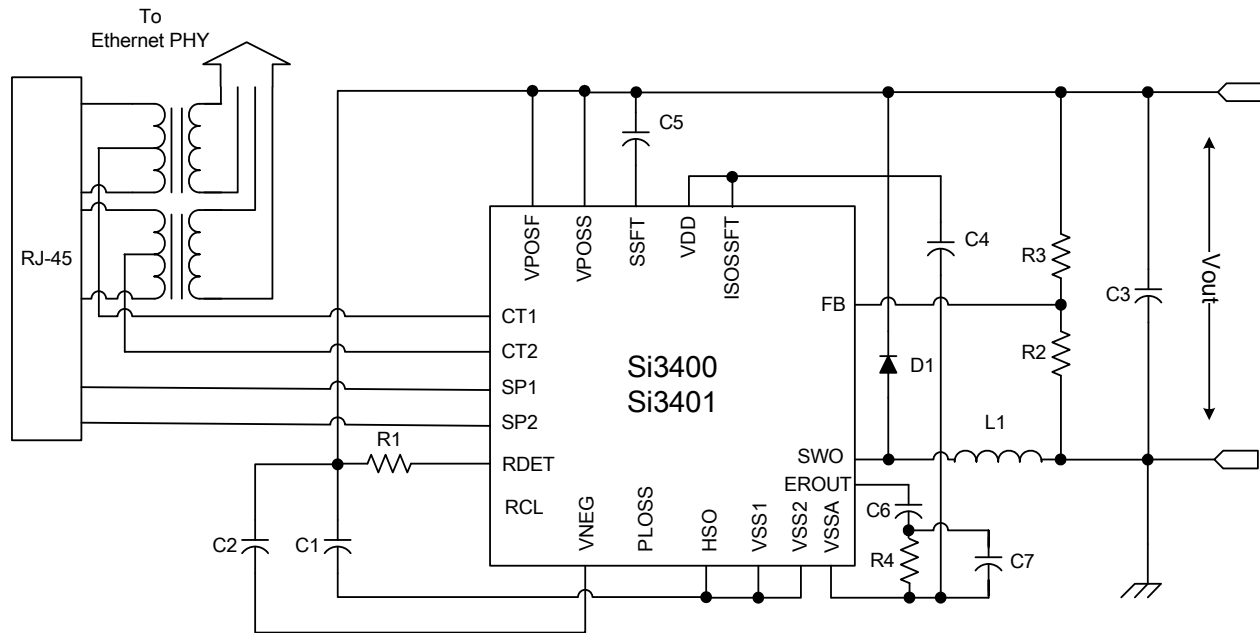
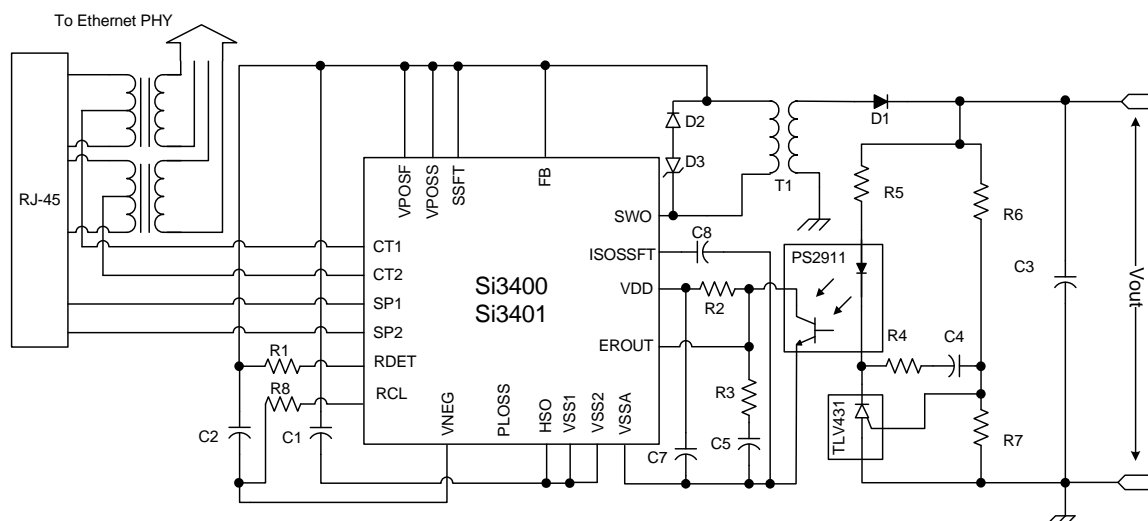

Figure 1. Simplified Schematic—Class 0 with Non-Isolated 5 V Output*
Figure 2. Simplified Schematic—Class 1 with Isolated 5.0 V Output*
6. Applies to non-isolated applications only (VOUT on schematic in Figure 1).
Notes: <ol style="list-style-type: none"> 1. Transient surge defined in IEC60060 as a 1000 V impulse of either polarity applied to CT1–CT2 or SP1–SP2. The shape of the impulse shall have a 300 ns full rise time and a 50 μs half fall time with 201 Ω source impedance. 2. The classification currents are guaranteed only when recommended RCLASS resistors are used, as specified in Table 11. 3. IPORT includes full operating current of switching regulator controller. 4. The PD interface includes dual-level input current limit. At turn-on, before the HSO load capacitor is charged, the current limit is set at the inrush level. After the capacitor has been charged within $\sim 1.25\text{ V}$ of VNEG, the operating current limit is engaged. This higher current limit remains active until the UVLO lower limit has been tripped or until the hotswap switch is sufficiently current-limited to cause a foldback of the HSO voltage. 5. See “AN296: Using the Si3400/1/2 PoE PD Controllers in Isolated and Non-Isolated Designs” for more information. 6. Applies to non-isolated applications only (VOUT on schematic in Figure 1).
The application determines the converter topology. An isolated application will require a flyback transformer-based switching topology while a non-isolated application can use an inductor-based buck converter topology. In the isolated case, dc isolation is achieved through a transformer in the forward path and a voltage reference plus opto-isolator in the feedback path. The application circuit shown in Figure 2 is an example of such a topology. The non-isolated application in Figure 1 makes use of a single inductor as the energy conversion element, and the feedback signal is directly supplied into the internal error amplifier. As can be seen from the application circuits, the isolated topology has an increased number of components, which increases the bill of materials (BOM) and system footprint.